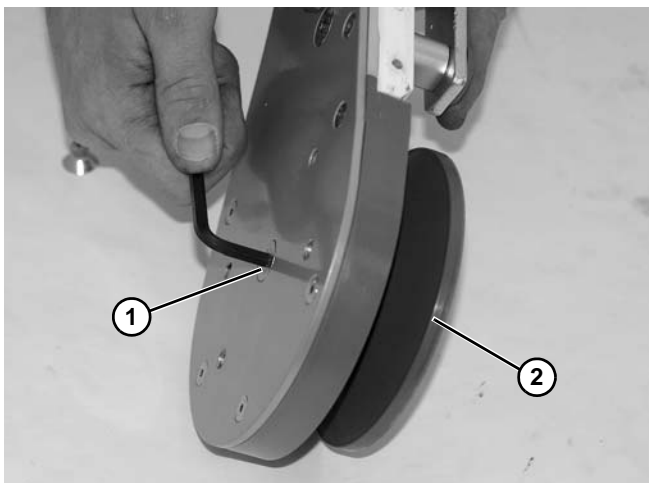

Figure 185
9. Remove flat head screw (Figure 185, item 1) and remove idler pulley (Figure 185, item 2) from idler head plate assembly.